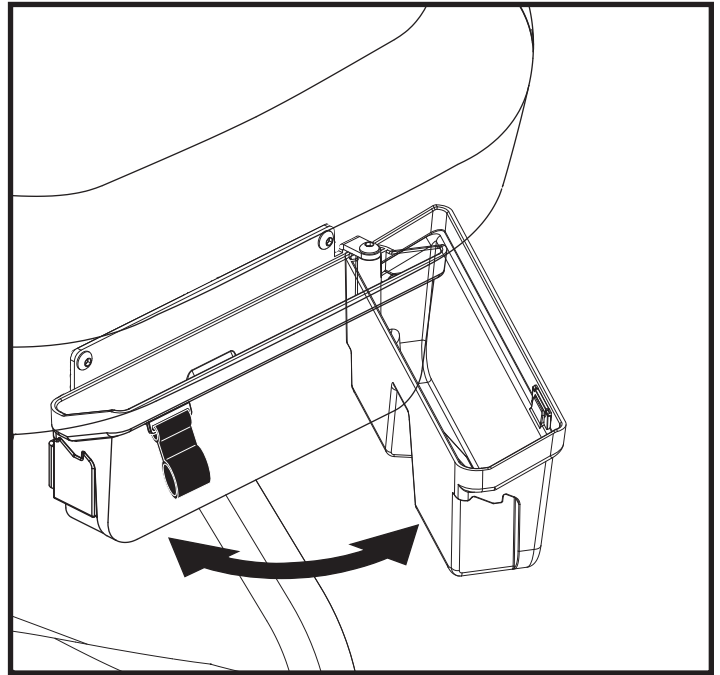

Figure 9. Swing-away Storage Compartment
2. Swing the storage compartment to the open position. See figure 9.
1. Open the storage compartment by pulling the storage handle upward and outward. **See figure 9.**
3. Remove the two bolts from the storage bracket. **See figure 9.**